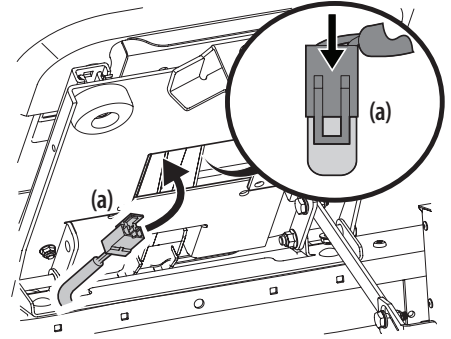

Figure 9
4. Insert the wiring harness (a) into the bottom of the seat as shown in Figure 9.
NOTE: When the wiring harness (a) is connected, be sure to push the excess wire from the wire harness (a) into the seat box hole before continuing. See Figure 9.